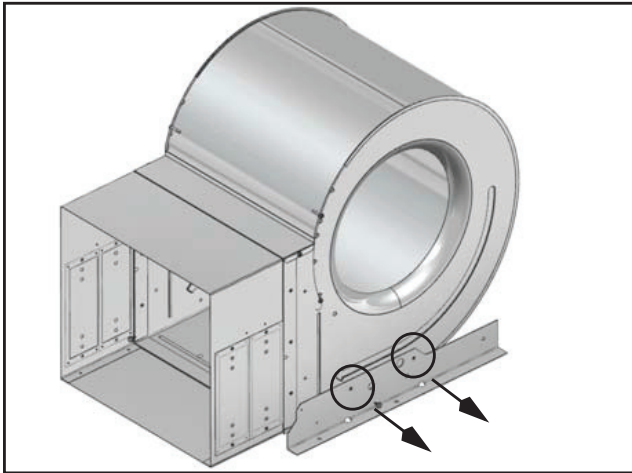

Fig. 33 - Retaining Bracket Removal
7. Remove and retain remaining bracket by removing (2) screws. See Fig. 33.